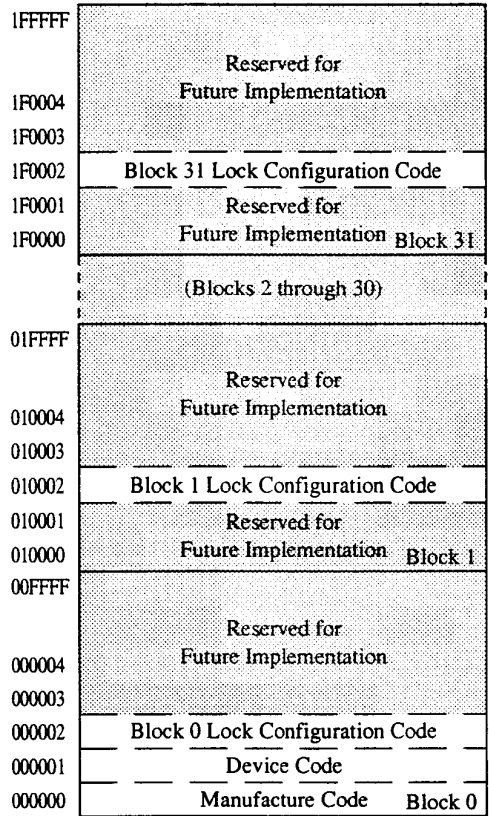

Figure 1. Device Identifier Code Memory Map
The read identifier codes operation outputs the manufacturer code (Block 0), device code (Block 0), and block lock configuration codes (for each block), see Figure 1. Using the manufacturer and device codes, the system CPU can automatically match the device with its proper algorithms. The block lock codes identify locked and unlocked blocks.
IA = Identifier Code Address; see Figure 1.
The host initiates the identifier code operation by writing the Read Identifier Codes command. Following the command write, read cycles from addresses shown in Figure 1 retrieve the manufacturer, device and block lock configuration codes (see Table 3 for identifier code data). To terminate the operation, write another valid command. Although Table 3 lists the device code as AAAA, other Sharp's Flash Memory Card could also have device codes A6A6 or A7A7. Host software should check for all three cases for compatibility with future cards.
1. × selects the specific block lock configuration code to be read. See Figure 1 for the device identifier code memory map.